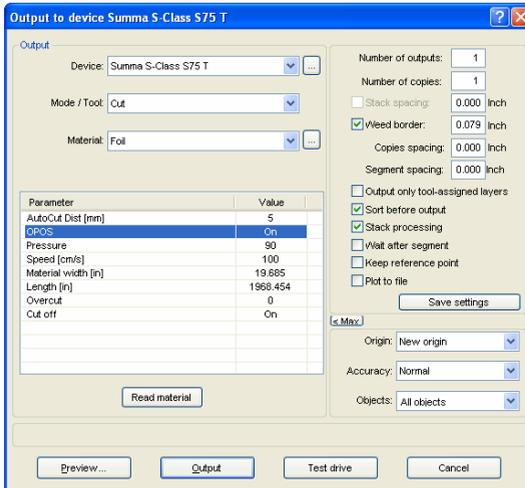
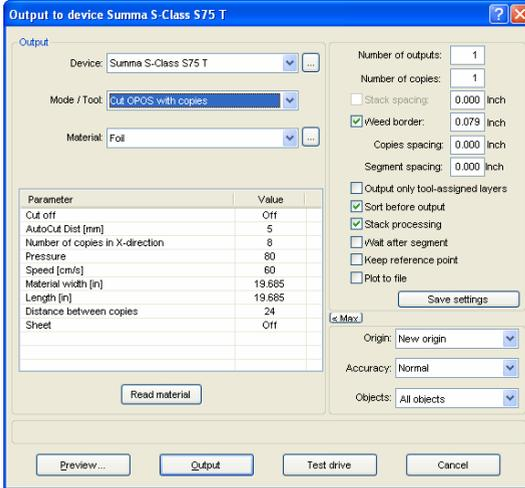

Fig. 3.11-5: Parameter setting OPOS=ON using the example of Summa S-Class
Fig. 3.11-6: Parameter setting with identical Job copies from roll (also possible with sheets, if the parameter "Sheet=On" was set)
The cutter described above are able to process sheets or rolls. OptiScout's plotter driver support both functions. Fig. 3.11-5 and Fig. 3.11-6 show the driver parameter for the cutting with sensor for the processing of identical job copies using rolls or sheets (Fig. 3.11-6).
**Note: The parameter "OPOS" is set automatically on "ON" if the appropriate marks are used. When processing identical copies of jobs on a roll using jog marks, the mode "OPOS cutting with copies" must be used (Fig. 3.11-6). Then additionally the number of copies in X direction can be set and as well as the mark distance between the copies in mm.**